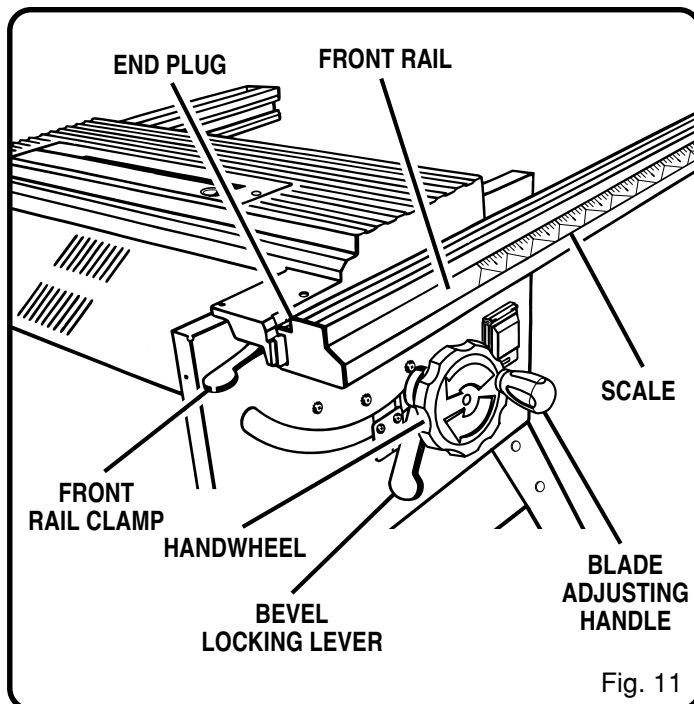

Fig. 11
See Figures 11 and 12.
- Loosen the front rail clamps one half turn from the tightened position. Loosen the square rail holder nut one-fourth (1/4) turn to allow the front rail to slide over it. See Figures 11 and 12.